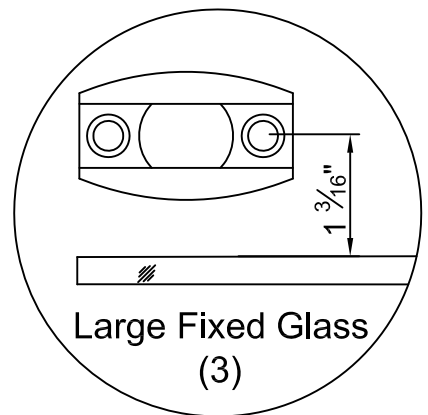

Fig.21
21. Position the Sliding Door Track Divider (8) into position as seen in Fig.21 and mark the 2 shower base hole positions.
Note: In Fig.21 the hole locations for attaching sliding door track divider should be $1 \frac{3}{16}$ " from edge of Large Fixed Glass (3).
See Fig.21 for details.